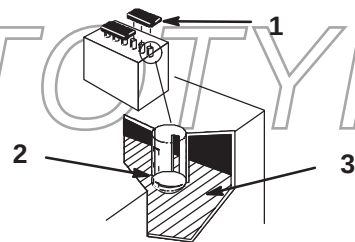

**Figure 22**
8. Install the battery into the chassis (Fig. 22).
10. Using the bolt and wing nut, connect the positive (red) cable to the positive (+) battery post (Fig. 22). Slide the rubber cover over the battery post.
11. Using the bolt and wing nut, connect the negative (black) cable to the negative (–) battery post (Fig. 22).